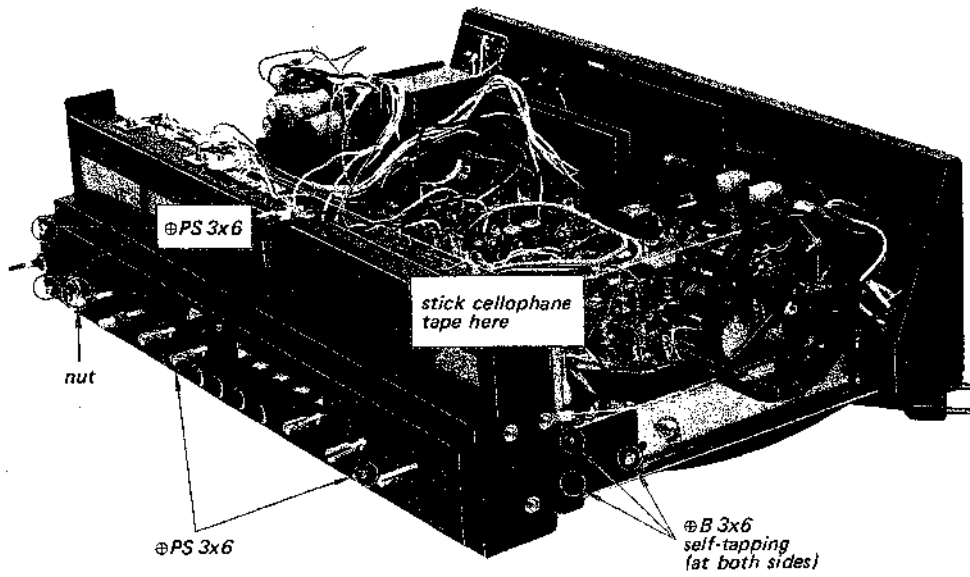

Fig. 2-11. Front subchassis removal
2. Fasten the dial-cord to the drum with cellophane tape as shown in Fig. 2-11.
3. Remove the front subchassis after taking out the ten screws and the nut shown in Fig. 2-11.